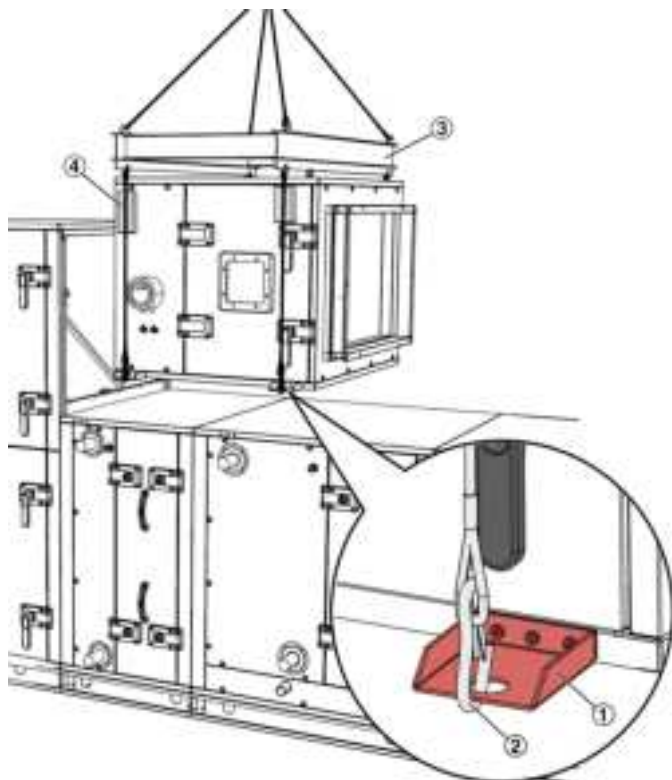

Fig. 6: Travel stop on transport brackets
The number of transport brackets on the AHU casing unit (Fig. 6 /1) determines the number of lashing points to be used.
1. ▶ Hook slings (Fig. 6 /2) into transport brackets.
- Spread the slings (wire ropes or chains) near the roof with suitable spreading devices, e.g. a spreader beam (Fig. 6 /3).
- Ensure that the slings cannot damage the AHU casing unit. Protect the edges of the AHU casing units with wood blocks (Fig. 6 /4) for example.